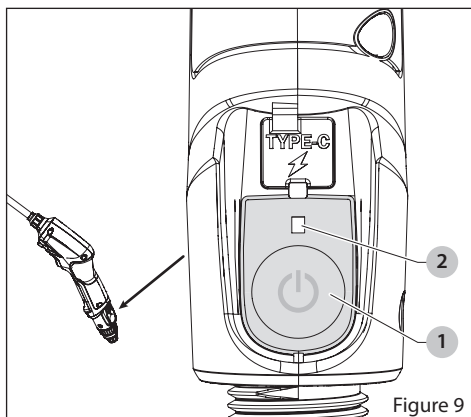

Figure 9
1. Push the power switch (1) to the ON position. A light (2) above the power switch turns on to indicate the battery level. See Figure 9.